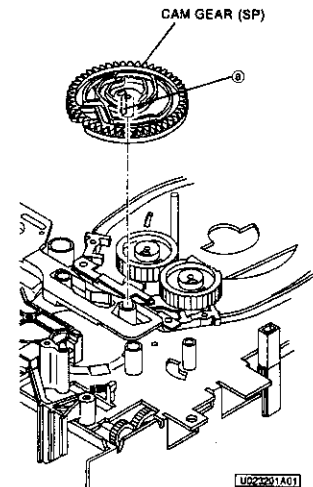

Fig. 2-32-1
1 Unfasten the catch (a) on the surface of the CAM GEAR (SP) shown in Fig. 2-32-1 with tweezers, etc. to remove the CAM GEAR (SP).